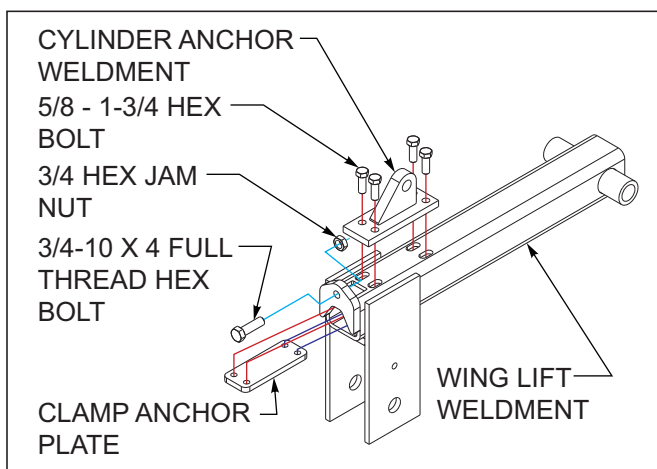

Figure 4-7: Wing Lift Adjustment
- e. Loosen the four 5/8 hex head cap screws that hold on the adjustable cylinder anchor weldment **See Figure 4-7**. Loosen the hex jam nut on the end of the gauge wheel arm weldment and adjust the 3/4 adjusting hex head cap screw so the tires on the mainframe and the wings are just touching the ground or are the same distance off the ground.
- g. The mainframe should now be level with the wings. If not repeat **steps d** thru **f**. If they are level, lower the machine to the ground, retighten and torque the (4) 5/8-11 x 1-3/4 hex head cap screws on each wing lift and retighten the 3/4-10 hex jam nut on the adjusting screw.